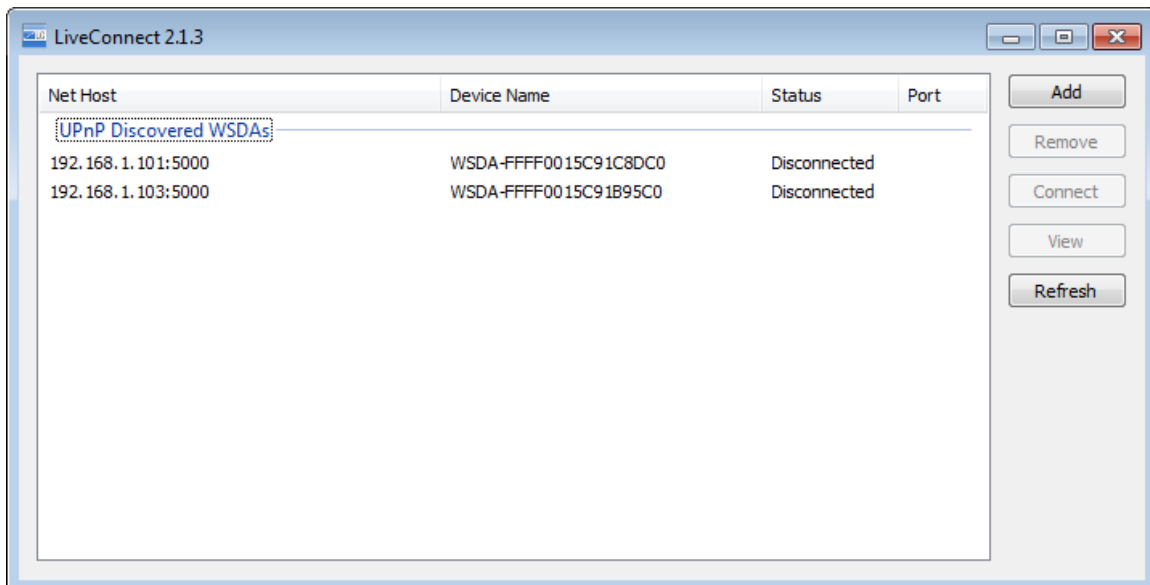

Figure 2. The Live Connect window
2. Launch the Live Connect software which is found in: Start > All Programs > MicroStrain > Live Connect. The Live Connect window will automatically scan for all the WSDA[®]-1000s on the network and display their IP addresses and device names as shown in *Figure 2*.
3. Click on your WSDA[®]-1000 to highlight it as shown in **Figure 2**.